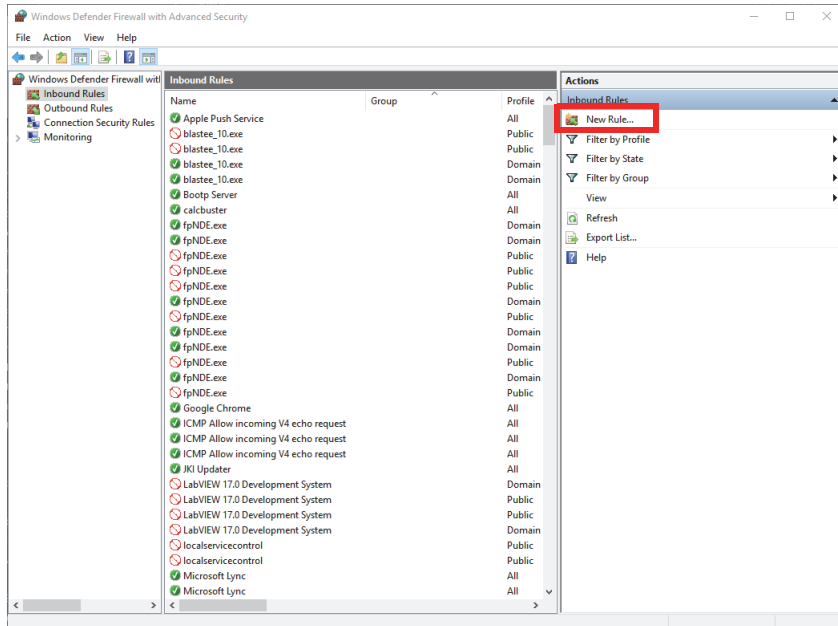

Figure 1-10 Windows Defender Firewall with Advanced Settings dialog box – Example
2. In the **Windows Defender Firewall with Advanced Security** dialog box, select **Inbound Rules**, and then select **New Rule** (Figure 1-10 on page 31).